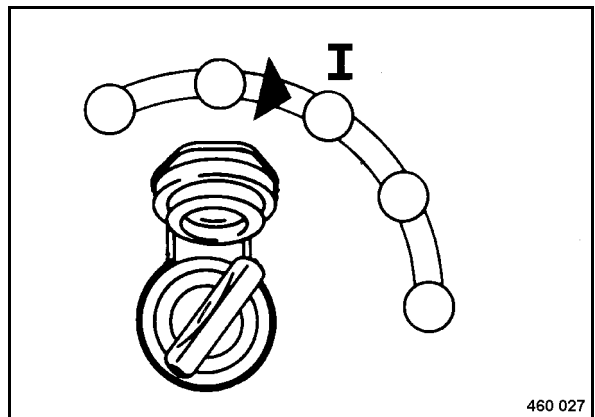

Fig. 40
- Turn the ignition key (Fig. 40) to position "I".